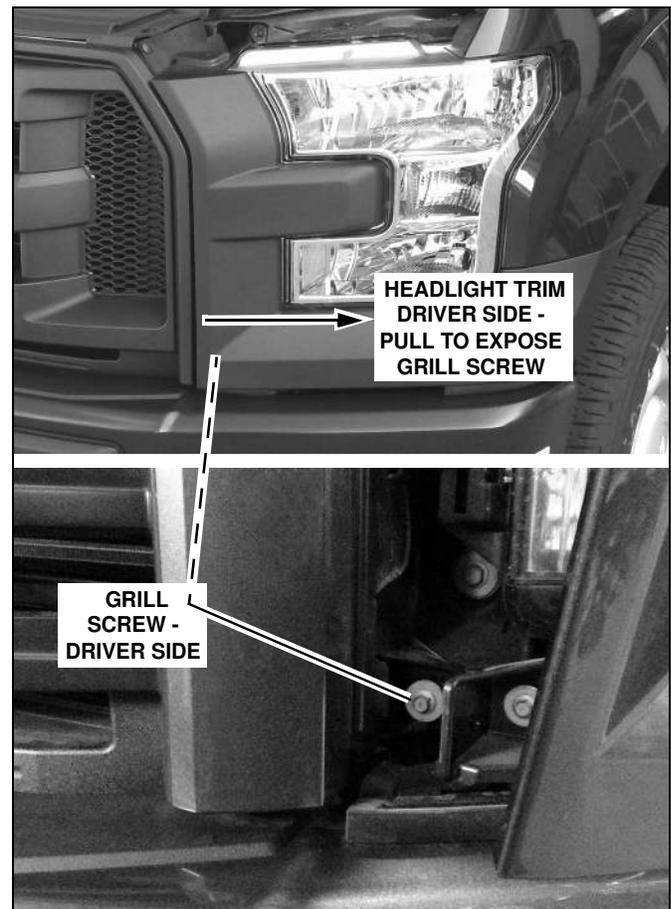

Figure 14
3. Pull the trim away from the headlights and grill just enough to access the remaining 2 screws holding in the grill. Remove 1 screw on each side of the grill. Also disconnect any harnesses running to the grill and any other rubber trim between the headlights and grill. (See Figure 14)